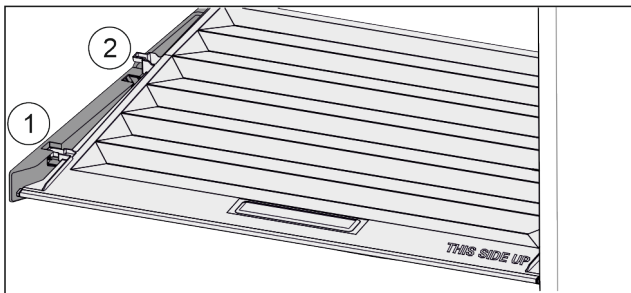

Fig. 136
- ▶ Pull the lid up at the front to the opening in the retaining parts Fig. 136 (1).
- ▶ Lift from the back and pull it up and out Fig. 136 (2).